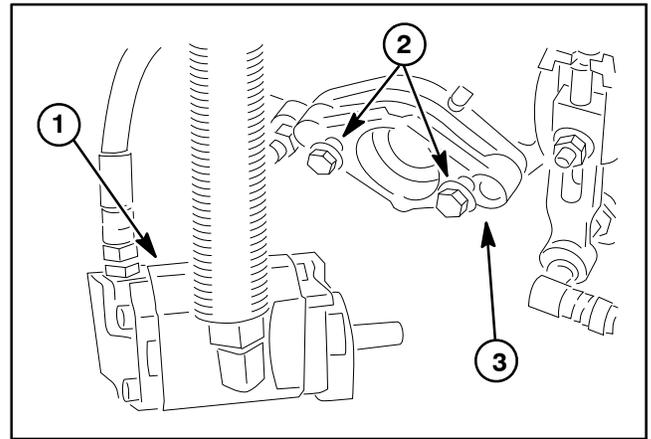

Figure 53
4. Loosen two (2) flange head screws that secure the hydraulic reel motor to the cutting unit side plate (Fig. 53). Rotate motor clockwise and remove motor from cutting unit.